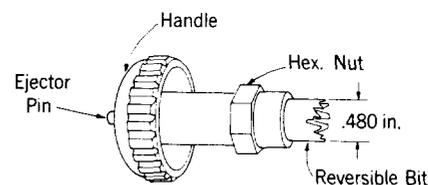

Fig. 2 - D Cable Drill
2.05 The D Cable Drill illustrated in Fig. 2 is used for making a 1/2-inch hole for a D Pressure Flange when constructing a resin plug in a 1-inch or larger diameter paper or pulp-insulated cable.